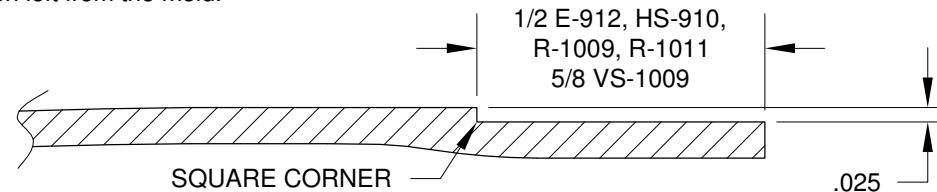
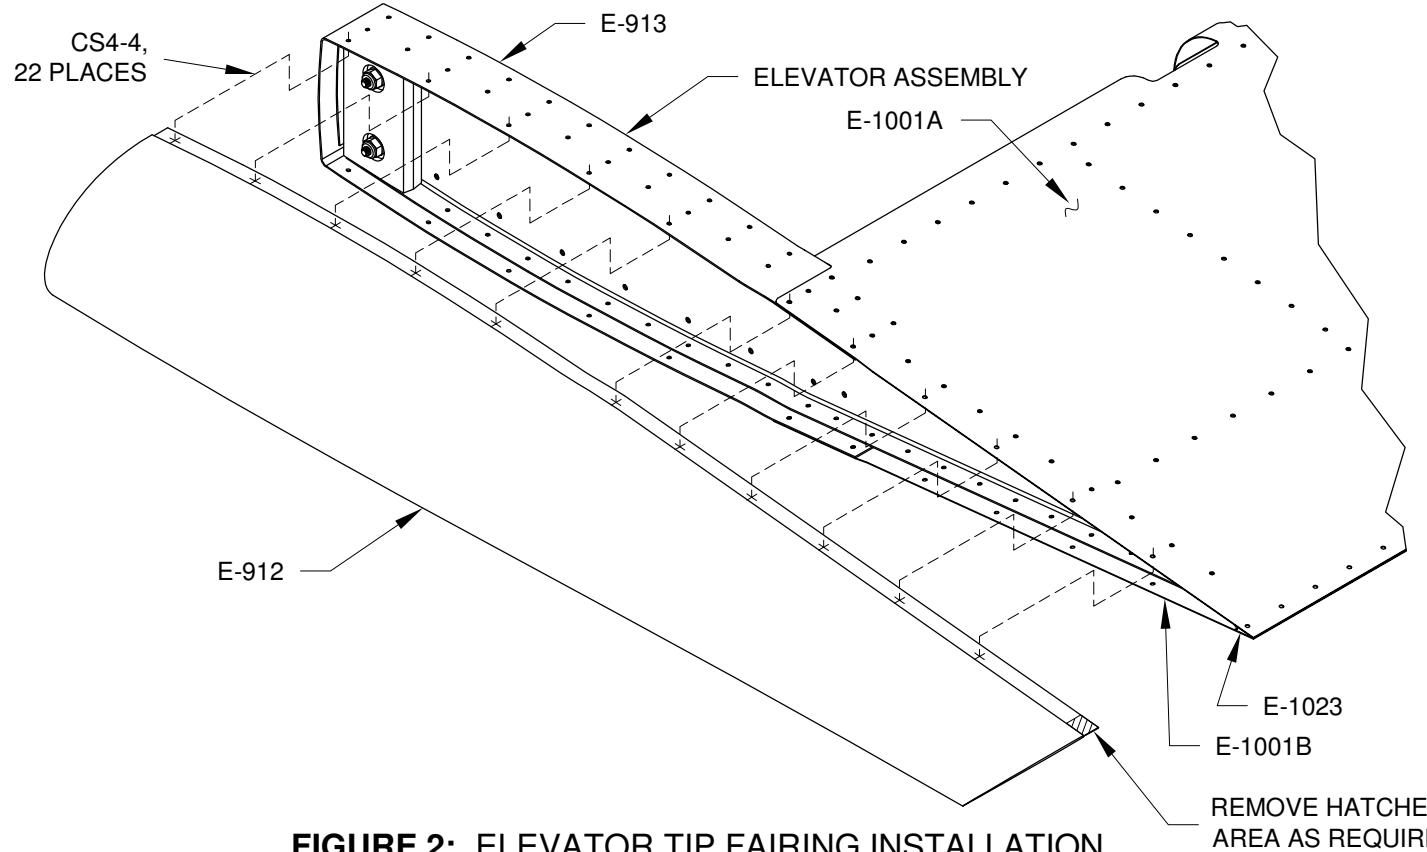

FIGURE 1: CROSS SECTION OF A TYPICAL TIP FAIRING MOLDED FLANGE
FIGURE 2: ELEVATOR TIP FAIRING INSTALLATION
Step 1: Ensure that the molded recess on all the tip fairings is square as shown in Figure 1. Use a razor blade or file to remove any material that may have been left from the mold.
Step 2: Trim the aft edge of the flange on the E-912 Elevator Tip Fairing as shown in Figure 2 to remove interference between the flange and the E-1023 Elevator Trailing Edge and allow the tip to be fully inserted into the end of the elevator. Trimming the width of the molded flange may also be required. See Figure 1 for the correct width.
Step 5: Cleco and rivet the E-912 Elevator Tip Fairing onto the elevator assembly per the callouts in Figure 2.